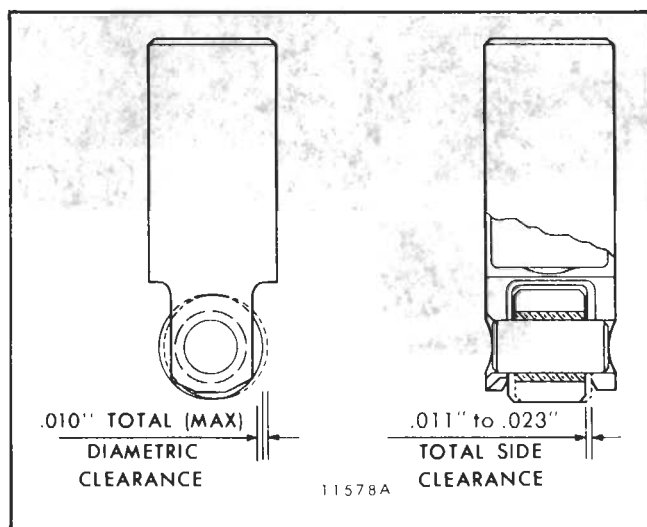

Fig. 5 - Cam Roller Clearances
Examine the cam follower rollers for scoring, pitting or flat spots. The rollers must turn freely on their pins. Measure the total diametric clearance and side clearance. Install a new roller and pin if the clearances exceed those specified in Fig. 5.
7. Remove the cam follower from the fixture and check the side clearance (Fig. 5). The clearance must be .011" to .023".